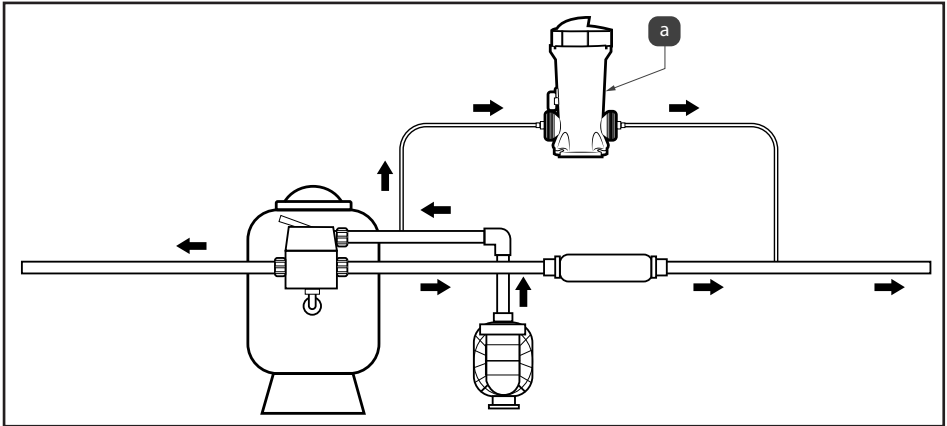

Figure 4. By-Pass Installation Configuration
NOTE: There are two versions of the plumbing nipples included with this feeder: one for use with 1 1/2" (50mm) PVC (Figure 4) and one for 2" (63mm) PVC.
3. The outlet connection must be made down-stream of the heating system or, if no heating system is installed, down-stream of the filter, see Figure 4(a). This connection will be feeding treated water from the dosing unit into the plumbing system.